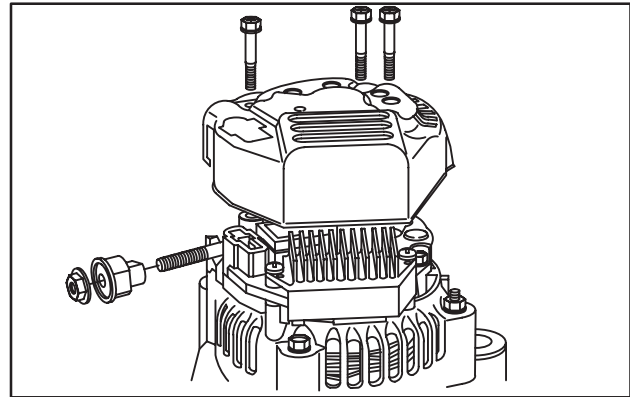

Fig. 42 – Install Cover
10. Install rear cover and three screws, Fig. 42.